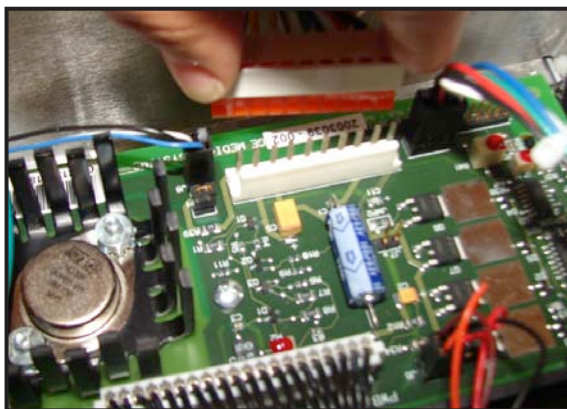

Figure 6-25
5. Disconnect the power supply cable from J1 connector on the recorder board (See Figure 6-25). Slide grommet out of bulkhead.